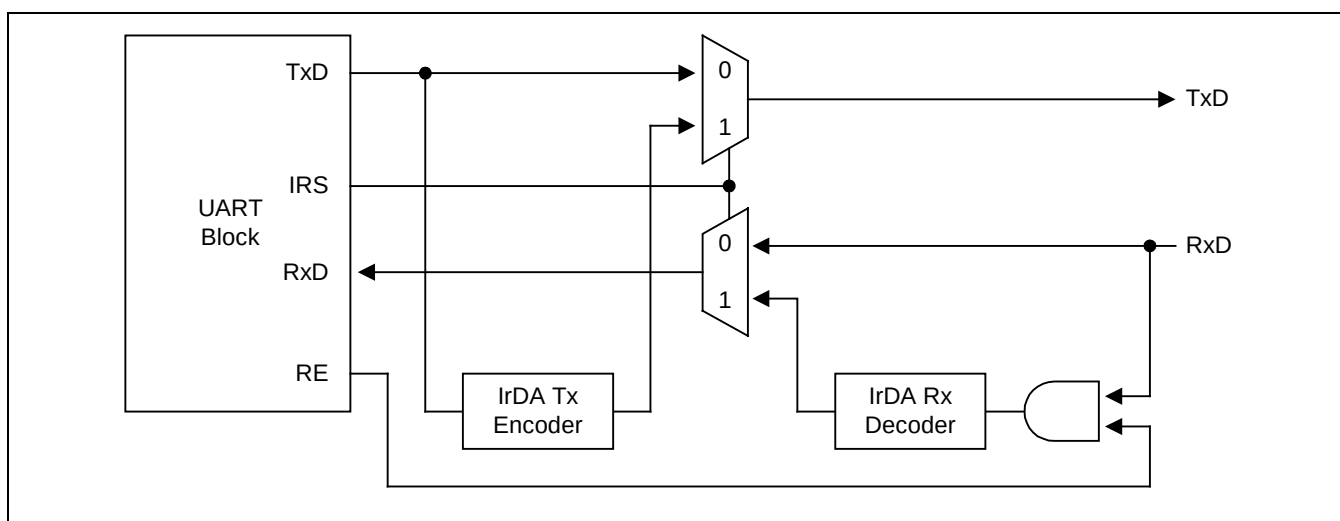

Figure 13-4. IrDA Function Block Diagram
The S3C2460 UART block supports infra-red (IR) transmission and reception, which can be selected by setting the Infra-red-mode bit in the UART line control register (ULCONn). Figure 13-4. illustrates how to implement the IR mode.